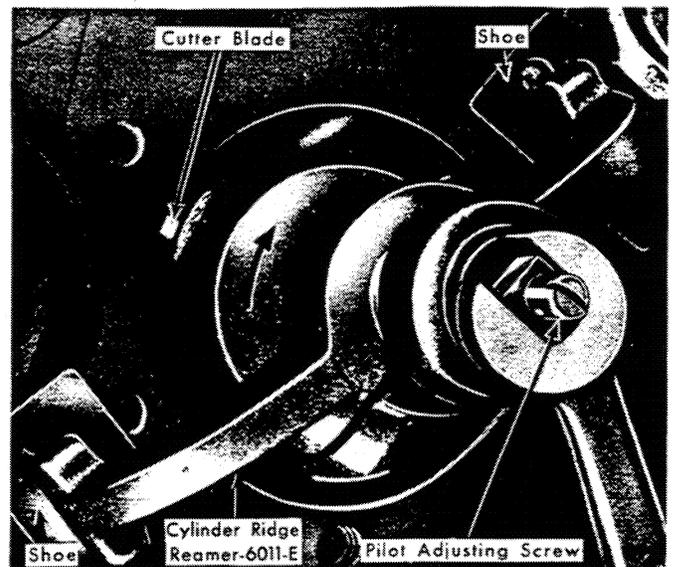

Figure 23
3. Remove the ridge from the top of each cylinder with Cylinder Ridge Reamer 6011-E, Figure 23.